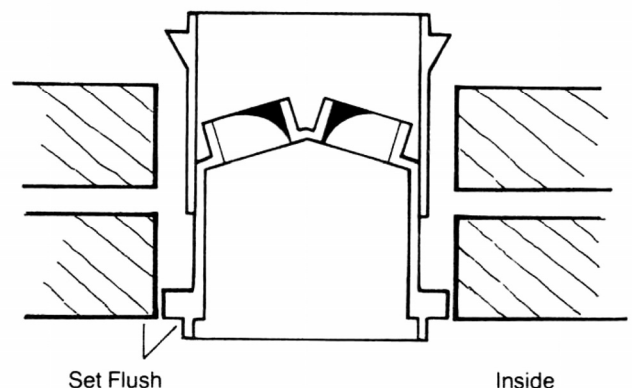
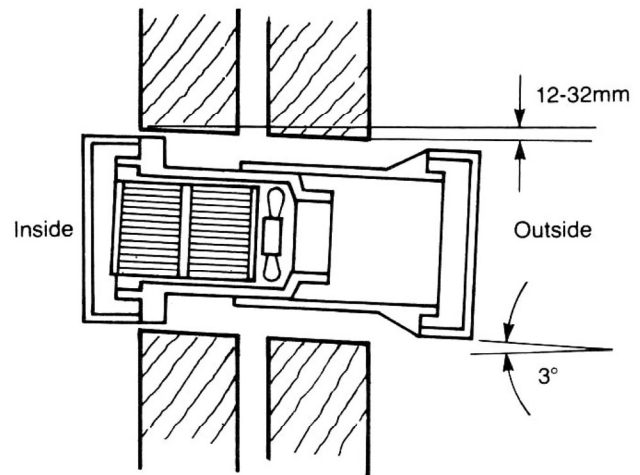

Fig. 4
Fig. 7
9. Try the casing assembly in the wall and ensure that the shoulder on the inner case can be set flush with the internal wall surface (see Fig.4).
12. Position the shoulder of the inner case flush with the interior wall surface (see Fig. 4). This will automatically result in the designed 3 degree slope to outside. If necessary, extend the telescopic outer case so that the lower shoulder of the outer case is flush with or proud of the outer wall surface (see Fig. 7).